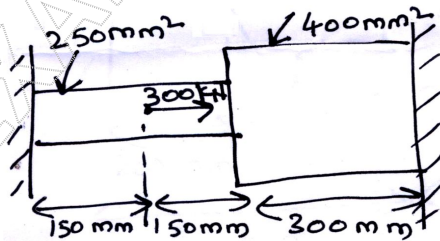

Fig.Q4(a)
- 4 a. Find the displacement, stresses and strains for a stepped bar as shown in Fig.Q4(a). Consider  $E = 200 \text{ GPa}$ .